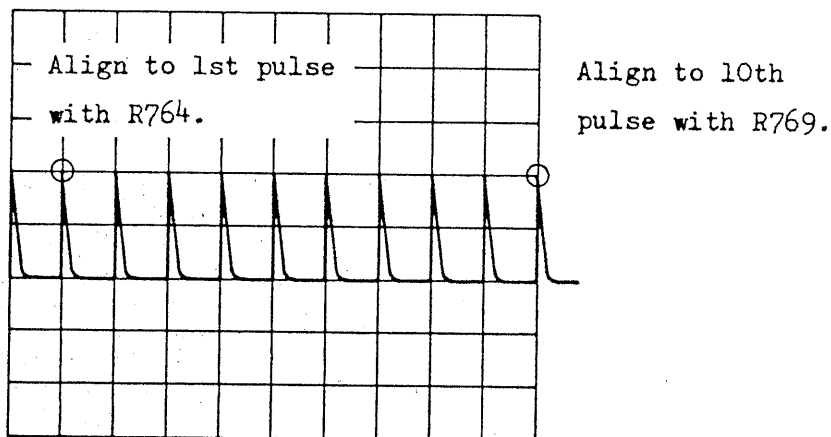
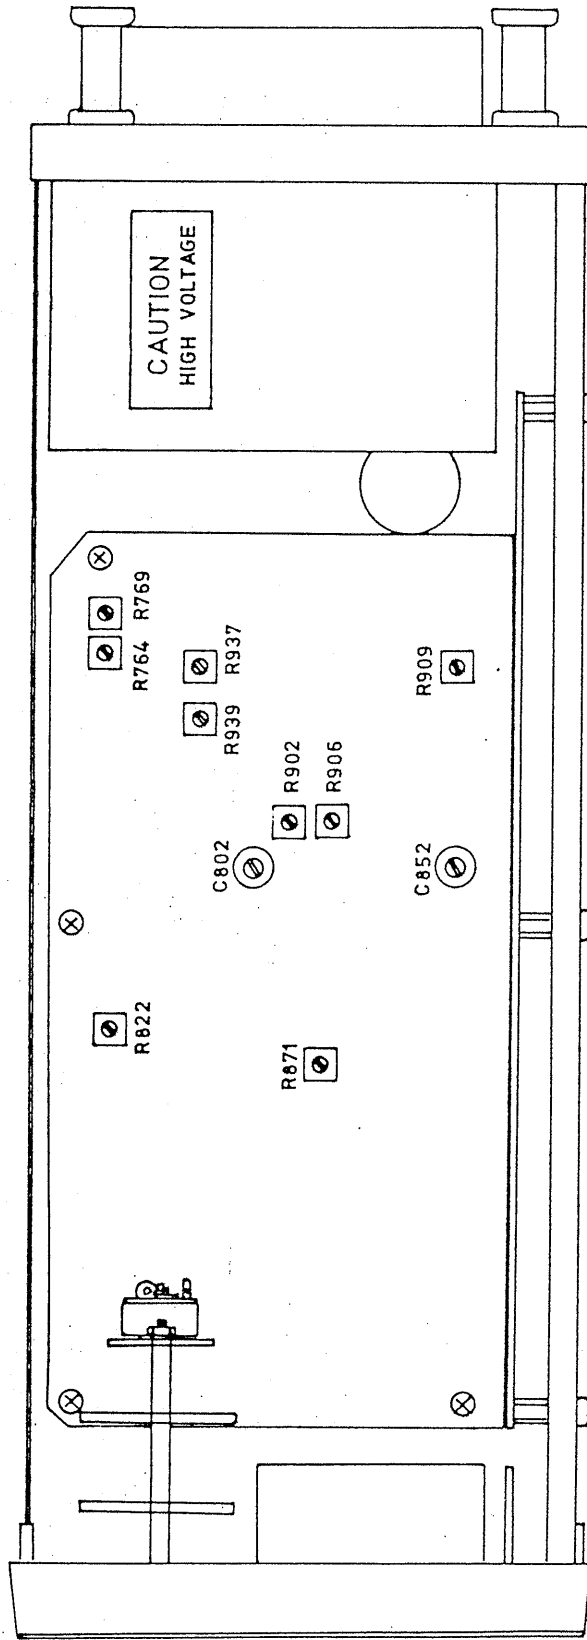

Figure 31
Figure 36
- (1) Apply to the vertical input terminal a time marker signal of 1 msec or a signal of 1 kHz, and deflect the signal with an appropriate amplitude on the screen.
- (2) Set the VARIABLE knob (44) in the CAL'D position. Set the TIME/DIV switch (45) at 1 mS.
- (3) So adjust the A SWEEP CAL (Figure 36, R822) that the displayed waveform conforms with scale divisions of the graticule.
- (4) Change the input signal to a time marker signal of 10  $\mu$ S or sinusoidal wave signal of 100 kHz and change the TIME/DIV switch (45) to 10  $\mu$ S.
- (5) So adjust the A 10  $\mu$ S CAL (Figure 36, C802) that the displayed signal waveform conforms with scale divisions of the graticule.
Calibrate the sweep time to the indicated values of the TIME/DIV switch (46). Adjust the B SWEEP CAL (Figure 36, R871) and B 10  $\mu$ S CAL (Figure 36, C852) in a similar manner as that for the case of "Calibration of A sweep time."
- (1) Set the TIME/DIV switches (45) and (46) at 1 mS, set the HORIZ DISPLAY switch (50) at ALT, and display both A and B sweeps on the screen.
- (2) So set the horizontal POSITION knobs (47) and (48) that their white dots are positioned upward (noon position). So adjust the A SWEEP POSITION (Figure 36, R902) that the start point of the A sweep is brought to the left hand end of the graticule.
- (3) Next, with the B SWEEP POSITION (Figure 36, R906), bring the start point of the B trace to the left hand end of the graticule.
- (1) Set the TIME/DIV switch (45) at 1 mS. So adjust the horizontal POSITION knob that the start point of the sweep is brought to the center of the screen.
- (2) Turn ON ( ) the 10 x MAG switch. So adjust the 10 x BAL (Figure 36, R939) that the start point of the sweep is brought to the center of the graticule.
- (1) Apply to the vertical input terminal a time marker signal of 0.1 mS or a signal of 10 kHz and display the signal with an appropriate amplitude on the screen.
- (2) Set the VARIABLE knob (44) in the CAL'D position and the TIME/DIV switch (45) at 1 mS.
- (3) Turn ON ( ) the 10 x MAG switch and so adjust the 10 x CAL (Figure 36, R937) that the displayed waveform conforms with scale divisions of the graticule.
- (1) Apply to the vertical input terminal a time marker signal of 1 mS and display the waveform with an appropriate amplitude on the screen.
- (2) Set the VARIABLE knob (44) in the CAL'D position, set the TIME/DIV switch (45) at 1 mS, set the TIME/DIV switch (46) at 10  $\mu$ S, and change the HORIZ DISPLAY switch (50) to the A INTEN state.
- (3) Set the dial indication of the DELAY TIME MULTI at 1.00 and align the displayed waveform with graticule.
- (4) So adjust the B START LEVEL (Figure 36, R764) that the accentuated portion of the waveform is aligned to the initial pulse as shown in Figure 31.
- (5) Set the dial indication of the DELAY TIME MULTI at 10.00.
- (6) So adjust the B END LEVEL (Figure 36, R769) that the accentuated portion of the waveform is aligned to the 10th pulse.
(1) Operate the oscilloscope in the X-Y mode and set both inputs in the GND state.
(2) Set the horizontal POSITION knobs (47) and (48) with their white dot positioned upward (noon position) and so adjust the X-Y POSITION (Figure 36, R909) that the spot is positioned in the center of the screen.